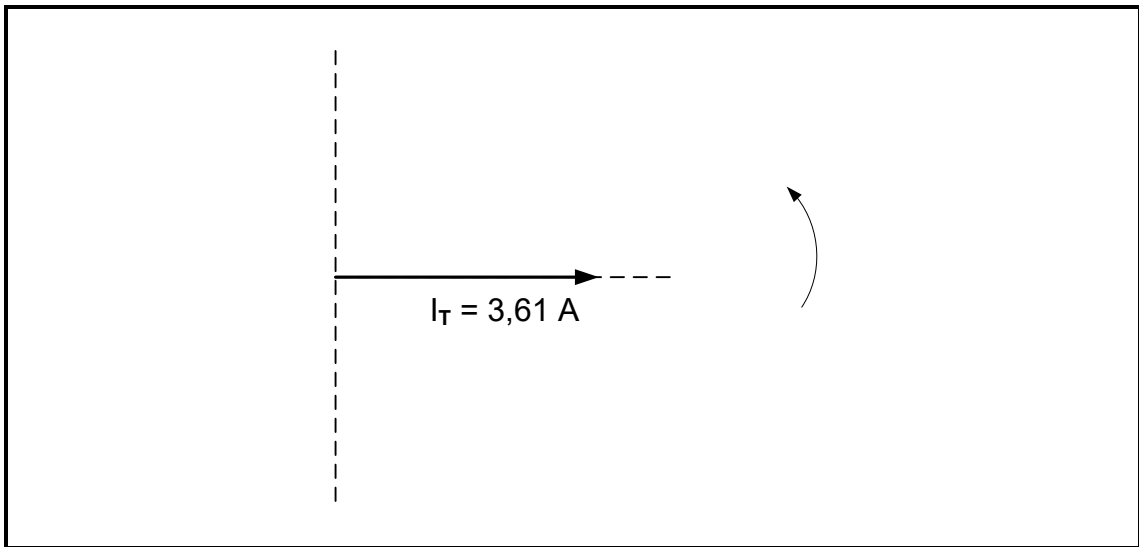

FIGURE 3.3: INCOMPLETE VOLTAGE PHASOR DIAGRAM
3.3 Redraw and complete the voltage phasor diagram of QUESTION 3.2 in FIGURE 3.3 below in the ANSWER BOOK.